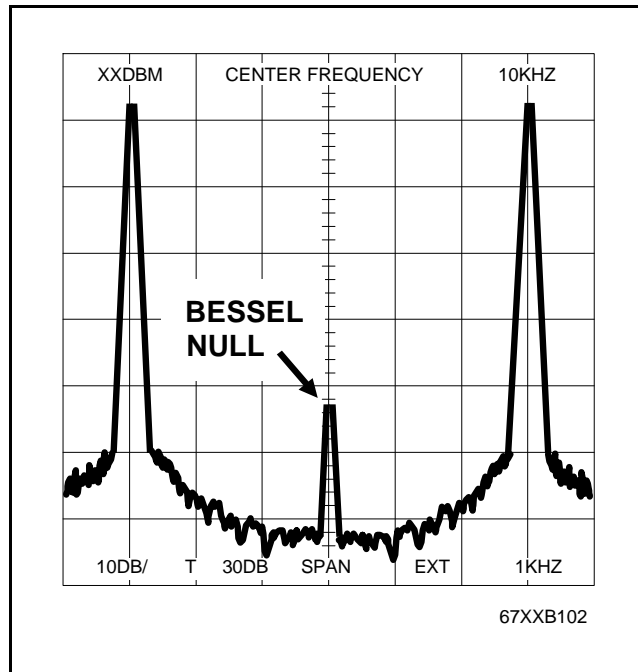

Figure 3-17. Typical Spectrum Analyzer Display of Bessel Null on FM Modulation Waveform
5. While observing the Spectrum Analyzer display, press the 67XXB DECR and INCR keys to adjust the waveform displayed so that the center portion (Bessel null) is at minimum amplitude (see Figure 3-17).